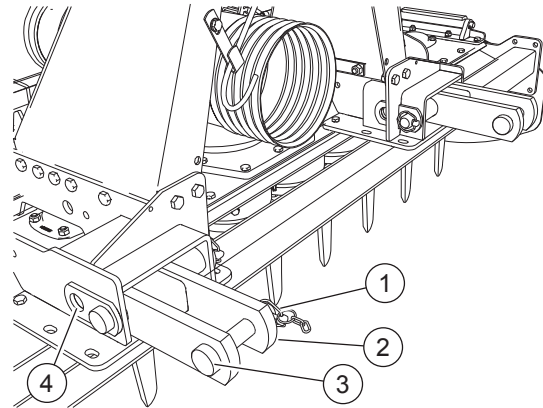

FIG. 24
- Remove the split pin (1, "Fig. 24").
- Take out the pin (3).
- Take out and rotate at 180° the tractor hitch (2).
- Insert the pin (3).
- Fasten the pin with the split pin (1).